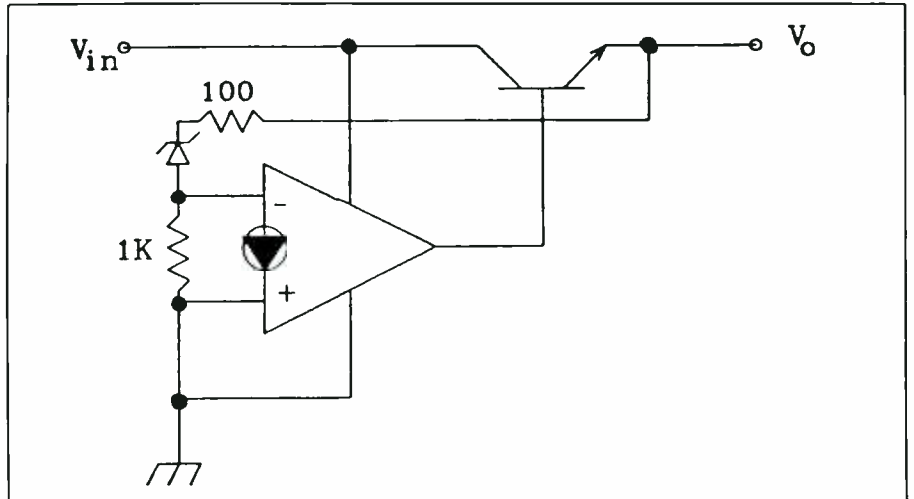

Fig. 7. Norton op amp voltage regulator.
• **Voltage Regulator.** The schematic diagram of a very simple voltage regulator built around the current-differencing operational amplifier is shown in Fig. 7. The zener diode provides feedback for proper regulation and bias of the pass transistor whose base is driven by the output from the op amp.
The input to the Fig. 7 circuit must be at least 2 volts greater than the intended regulated voltage to obtain